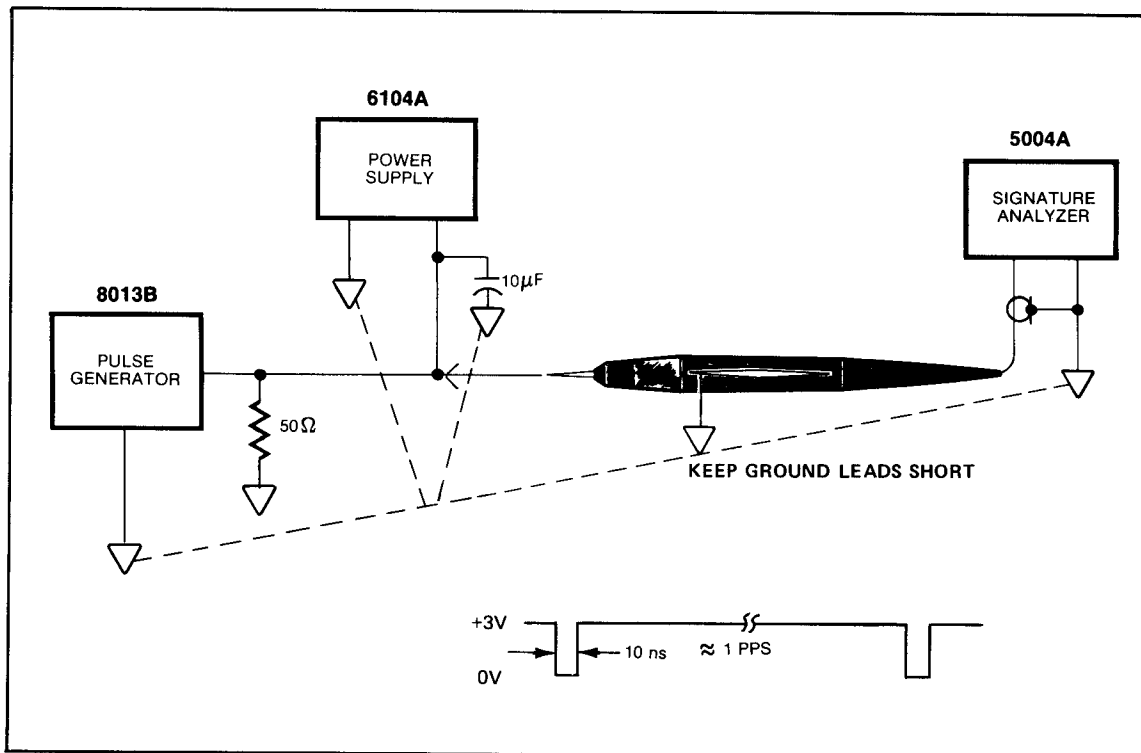

Figure 4-3. Negative Pulse Performance Test Setup
4-9. With test equipment connected as in *Figure 4-3*, proceed as follows:
- Adjust pulse generator to give waveform at probe tip as shown in *Figure 4-3*, with a repetition rate of one-pulse-per-second. Probe indicator should flash off approximately once per second.